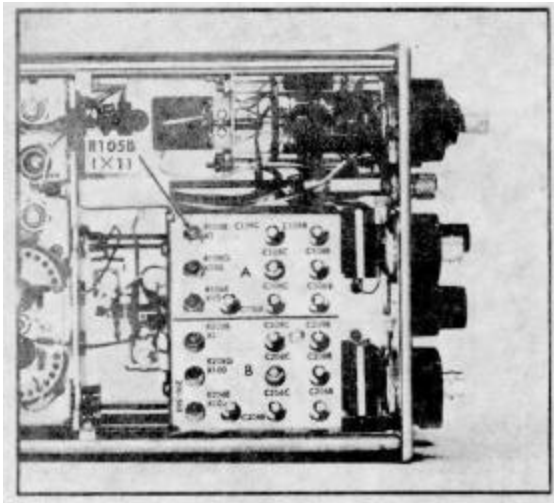

Fig. 5-37. Location of step 28g adjustment.
g. Adjust R105B (see Fig. 5-37) to obtain a null reading on the non-loading voltmeter.